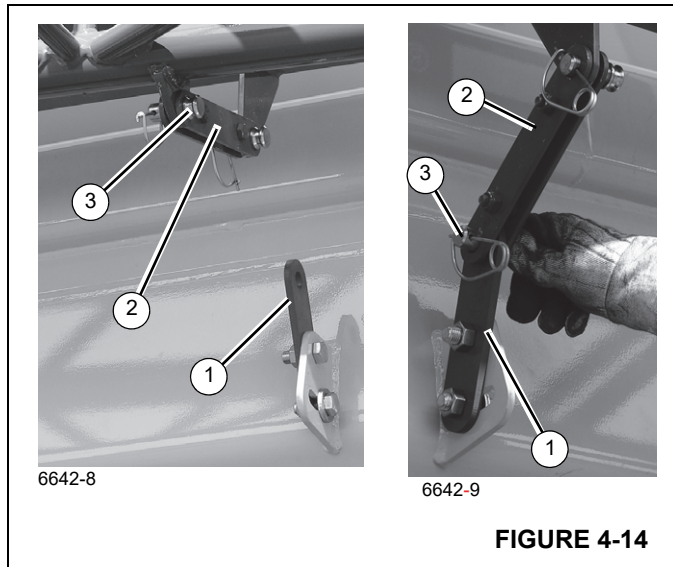

FIGURE 4-14
11. Move locking bar (9, Figure 4-21; 2, Figure 4-14) to boom base attachment bar (1) and install pin (3). Secure with retaining clip.